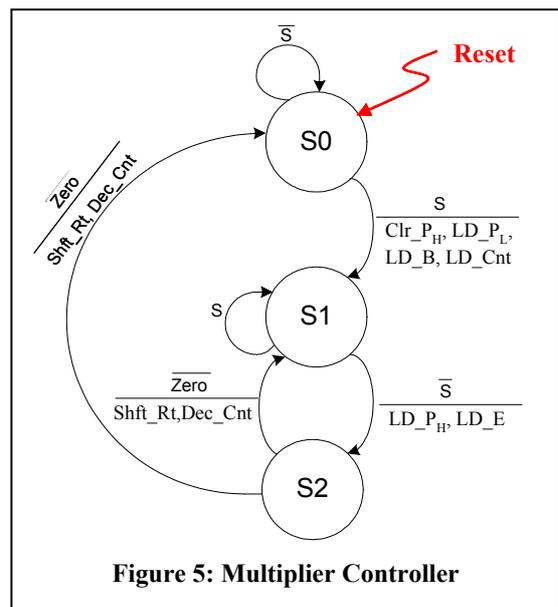

Figure 5: Multiplier Controller
The state diagram of the controller is shown in Figure 5. The controller FSM has 3 states (S0, S1, and S2). The initial state is the reset state S0. The state machine stays in the reset state until a *Start* signal “S” is asserted high indicating the availability of new input data. Thus, when S is asserted high, the next clock edge moves the FSM to the second state S1, loads multiplier input (A) into P_L , clears P_H , loads multiplicand (B) into the B-register, and loads the value ‘ $n-1$ ’ (= 3) in the down counter “Cnt”.